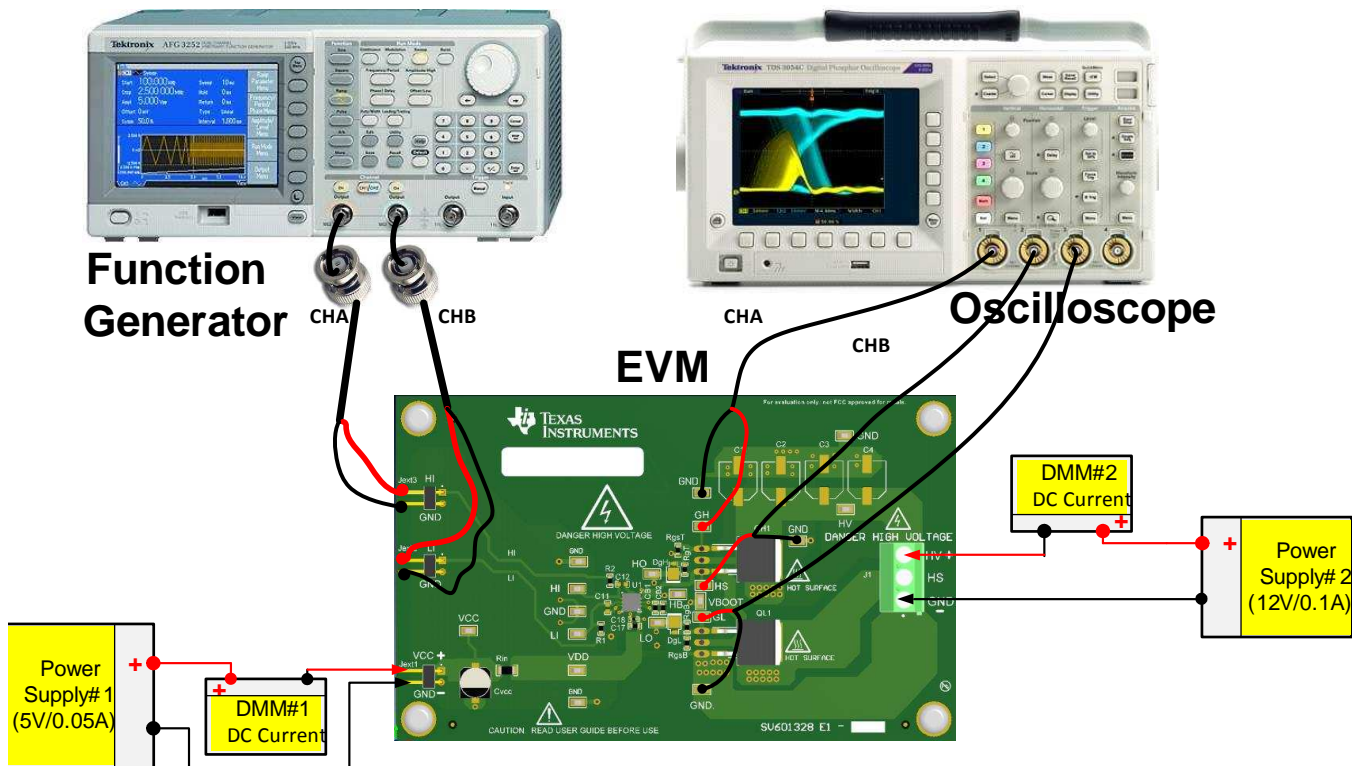

Figure 1. Bench Setup Diagram and Configuration
Please follow the connection procedure below, and Figure 1 can be used as a reference.
1. Before preceding the power-up test procedure, please make sure that Figure 1 is implemented for setting up all the equipment. Figure 1 could be used as reference